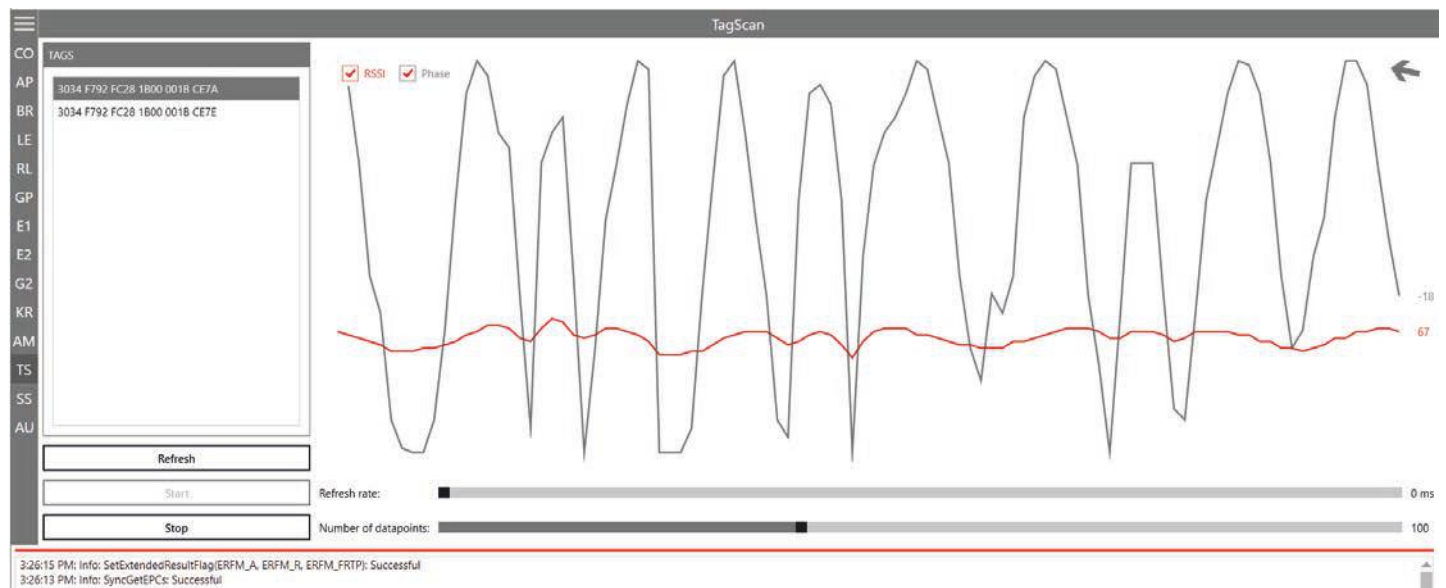

Fig. 71: TagScan: phase shift, transponder is moved
①	ETSI	selects the frequency area
②	Antenna 1–n	selects an antenna from the drop-down menu
③	Start	starts SpectralScan
④	Stop	stops SpectralScan
⑤	Reset maxima	resets maxima
If there is more than one reader, spectral scan shows which channels might be occupied by other readers. In Fig. 71, p. 104, the channels 4, 10 and 13 are occupied by other readers. If the user is not satisfied with the reading results and the interferences keep occurring, it is possible to deactivate channels on which the interference occurs (4, 10 and 13) and only activate the channel that is free (7) to achieve better reading results, see ⑩ in Fig. 49, p. 85.